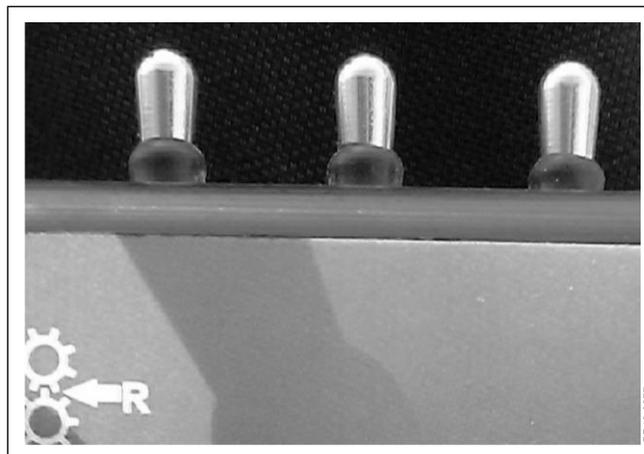

Fig. 2-7
**Fig. 2-7** There are 3 toggle switches on top of the control box. One of them is used for folding of the chute; the other two are intended for optional equipment. The toggle switches automatically return to the neutral middle position after being activated.